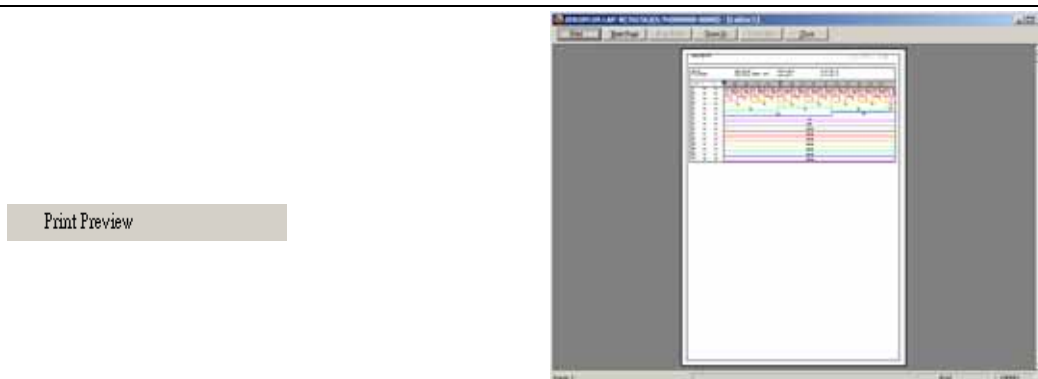

Fig 3-17: Click to show a **Preview** of the **Print**.
- ← **Print Preview** - Show three options: Bus/Signal & Bus & Filter columns, Waveform Display Area, and Position Display Area (See Fig. 3-17).